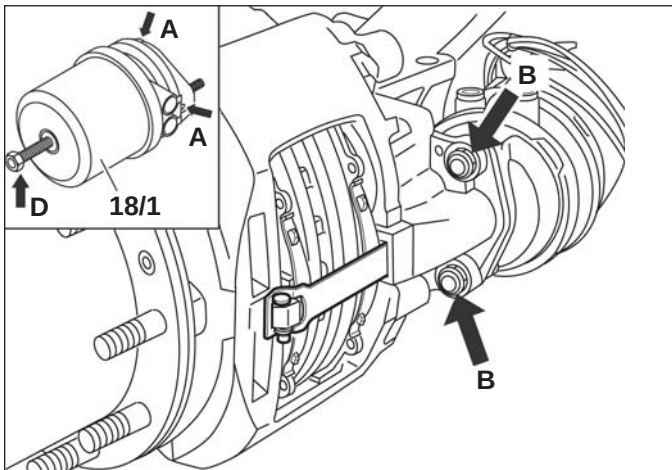

FIGURE 43 - ACTUATOR SPRING CAGING AND REMOVAL
5.4.3 With the vehicle on a level surface and the wheels properly chocked, apply air to release the spring brakes (parking brakes) by using the dash-mounted air control valve. Back out the release bolt (Figure 43, arrow "D"), using a maximum torque of 26 ft. lbs. (35 N·m) to cage the air released spring force on the push rod.
Note: Where a new spring brake chamber is being installed, note that in some cases drain plugs are installed (See Figure 43, arrows marked "A"). Where drain plugs are present, after installation, remove whichever plug is at the lowest position. The selected drain hole must be aligned downwards (or within $\pm 30^\circ$) when installed on the vehicle. In the case of spring brake chambers, install the pads before uncaging the spring.